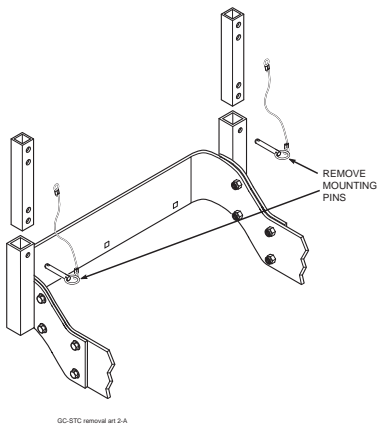

FIGURE 4-2
4. Remove the two (2) pins holding the hopper assembly to the mounting posts on the rear of the machine. See Figure 4-2.